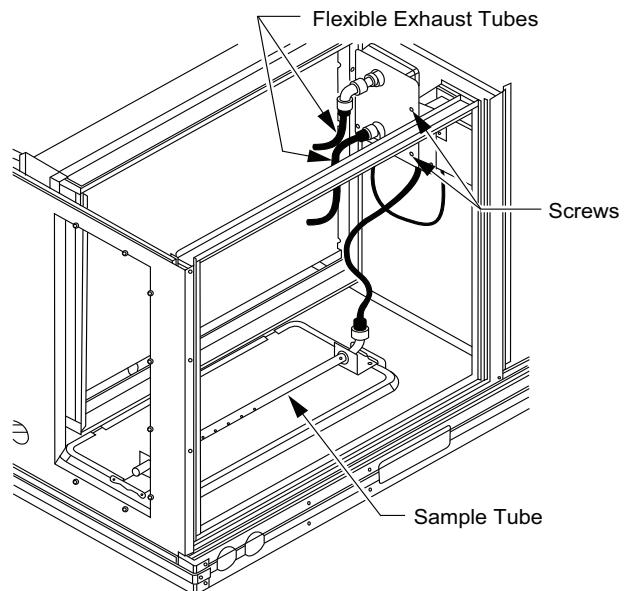

Fig. 40 — Return Air Smoke Detector Shipping Position
1. Unscrew the two screws holding the return air sensor detector plate (see Fig. 40). Save the screws.